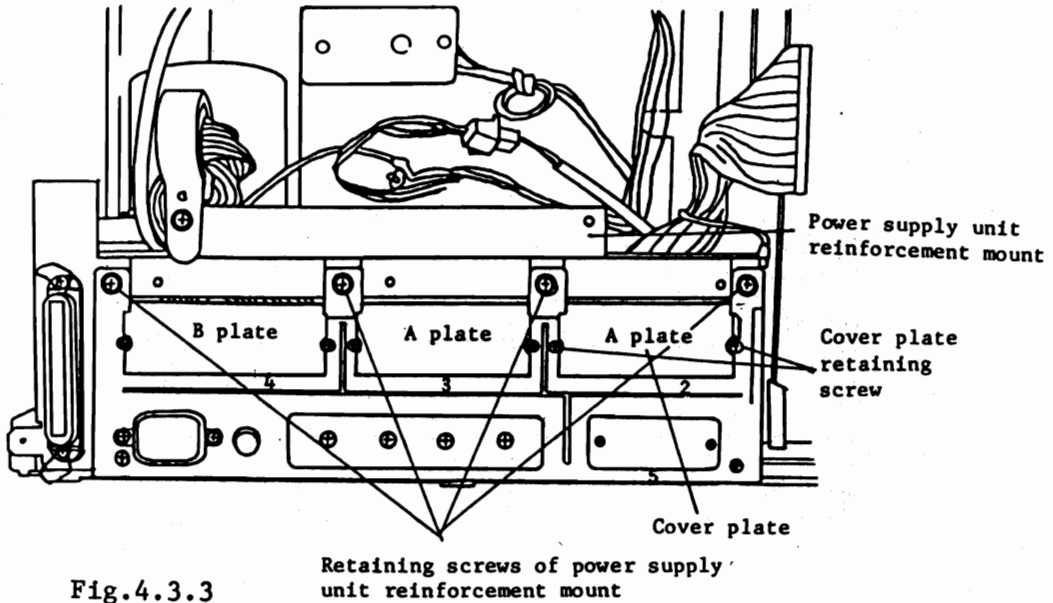

Fig.4.3.3
- ① Remove both rear and upper covers. See paragraph 3.1 of Chapter 3.
- ② Pull out power supply unit half its depth (paragraph 5.2.2), and remove power supply unit reinforcement mount with four retaining screws as in Fig. 4.3.3.
- ③ Remove cover plate clamped to power supply unit with two retaining screws.